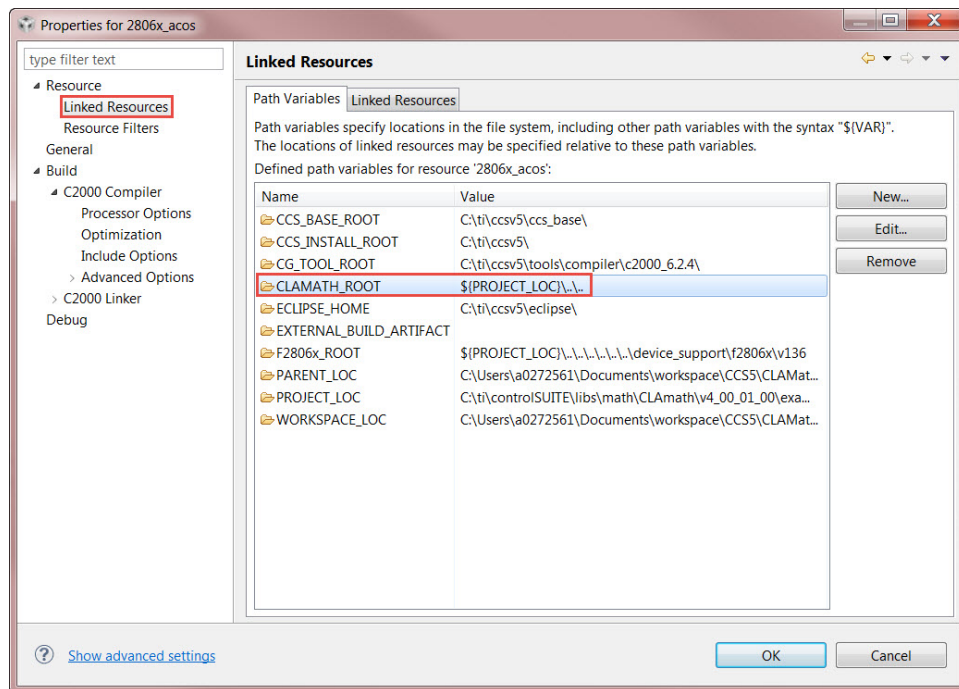

Figure 4.4: Creating a new build variable
1. Go to **Project Properties->Linked Resources** and add a new variable (see Fig. 4.4), CLA-MATH\_ROOT, and point it to the root directory of the CLA Math library in C2000Ware, i.e. the c28 folder.